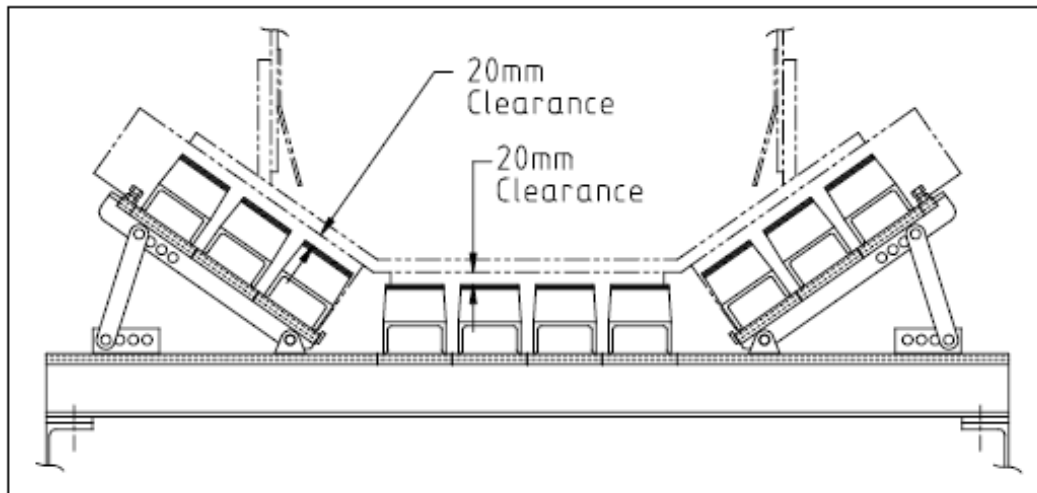

Figure 3 - Cradle Setup Clearances
9. Re-assemble the cradle in reverse order of disassembly. The wing bars, that is the troughing bars, should also be approximately 20mm away from the troughing idler line (Fig 3).